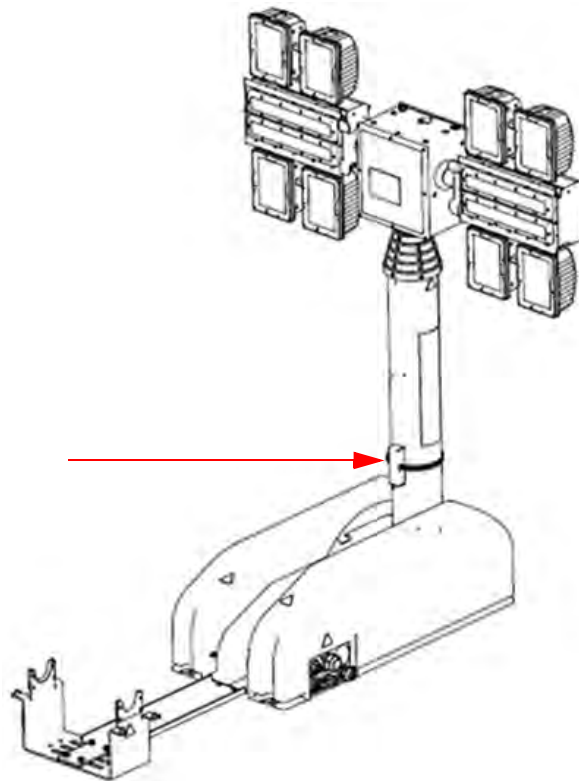

Figure 7-10 Mast Down Limit Switch Location
1. The Mast Down Limit Switch location is shown in Figure 7-10.